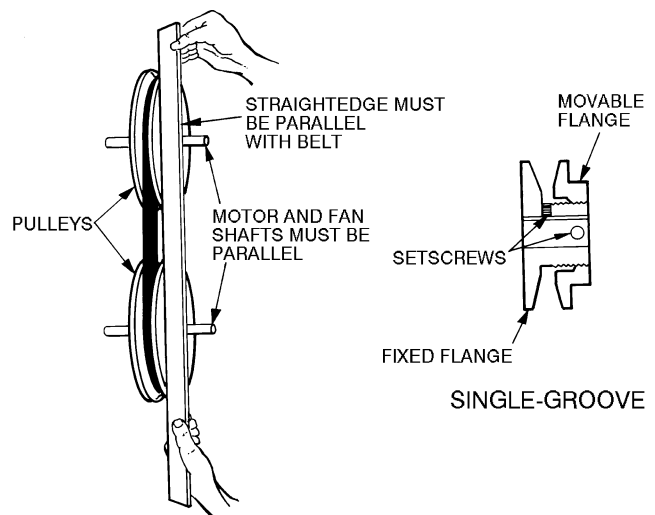

Fig. 49 — Evaporator-Fan Pulley Adjustment
3. Loosen movable pulley flange setscrew (see Fig. 49).